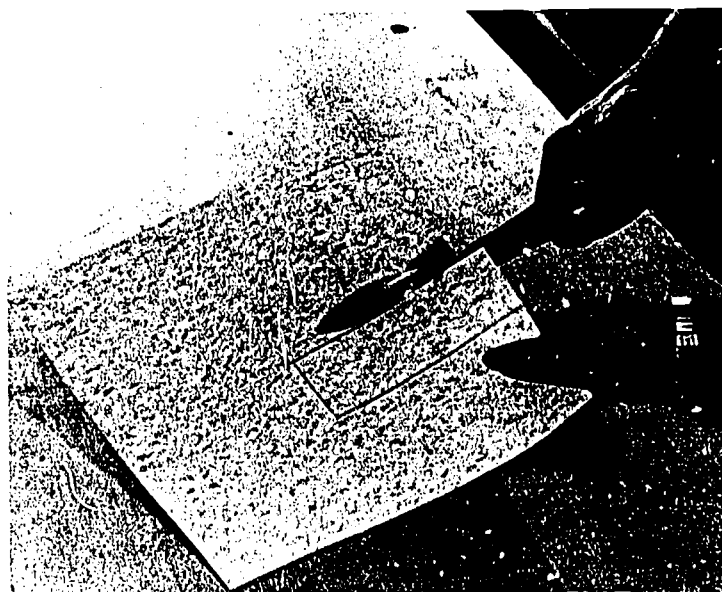

Fig. 63-2. Cutting Opening for Ductwork
5. Measure from the front wall to obtain the ductwork opening measurements. Transfer the measurements to the tile and cut. See Fig. 63-2.